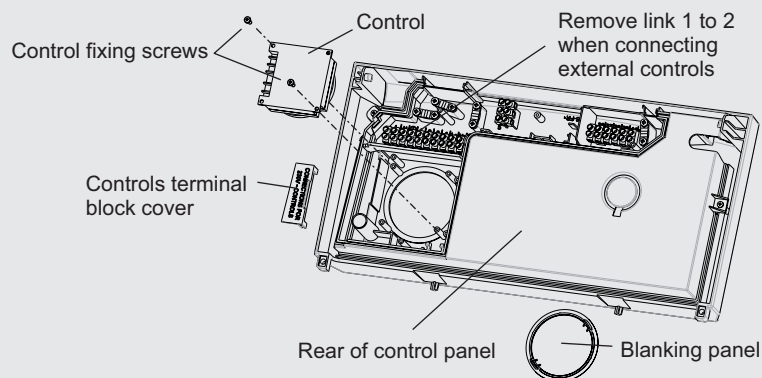

Fig. 5.15
5.11 FIT ALPHA CONTROLS (standard 240 V clock option) - Fig. 5.15